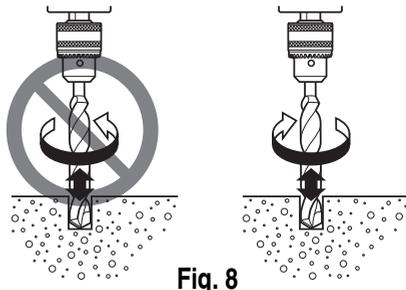

Fig. 8
- Always use the impact drill with clockwise rotation, when using it as an impact drill. (Fig. 8)